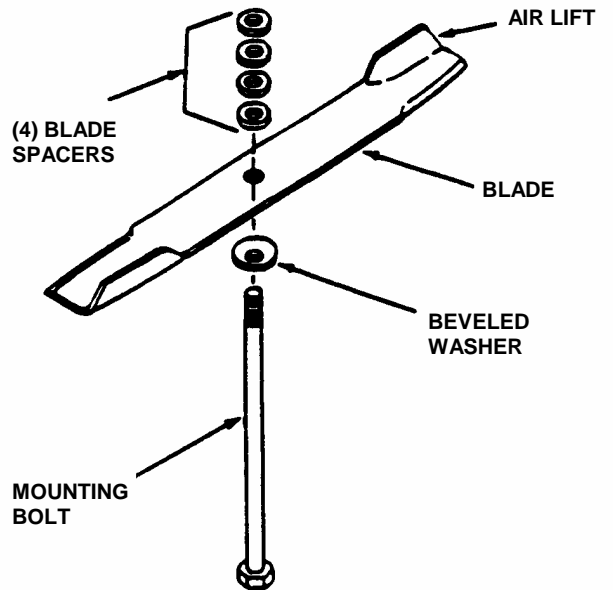

FIGURE 4.6
1. Remove blade. See Figure 4.6.